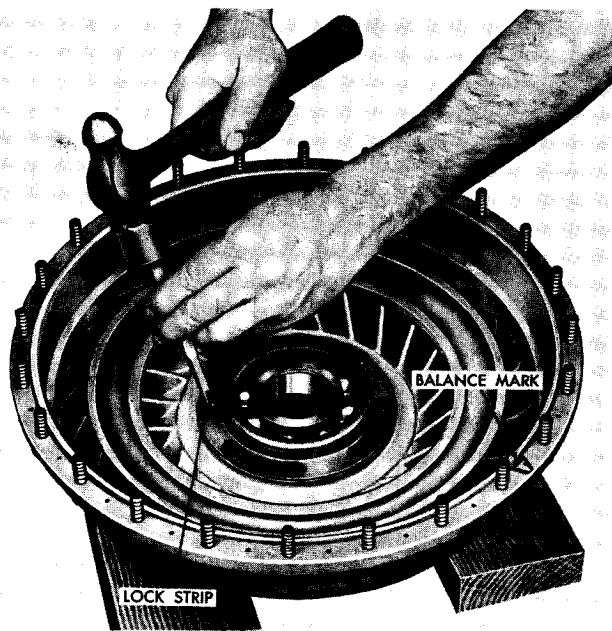

Fig. IX-3 Flattening lock strip tab
(3) Flatten lock strip tabs and remove the four strips and eight bolts (fig. IX-3).